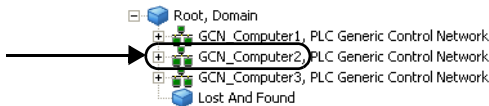

Figure 15. Generic Control Network Object
A Generic Control Network object represents a control network in the system, see Figure 15 for an example. Generic Control Network objects are defined in the Control Structure.
31. Select the Generic Control Network object, see also Figure 15 on page 24.